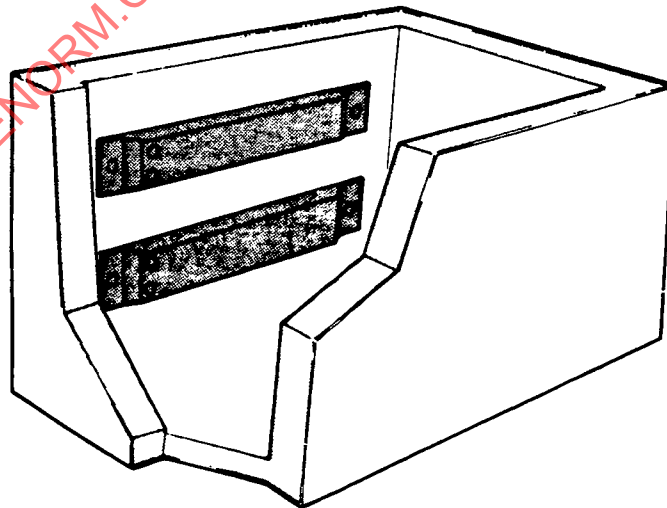

FIGURE 8
7.1.3 Strip Heaters: Commercially available strip heaters (Figure 8) can be employed for heating batteries. These are generally of higher watt densities. Care must be exercised to ensure that they do not come into direct contact with the battery casing. It is advisable to mount these units on the inside wall of the battery box. These units are available in various sizes, wattages, and voltages.